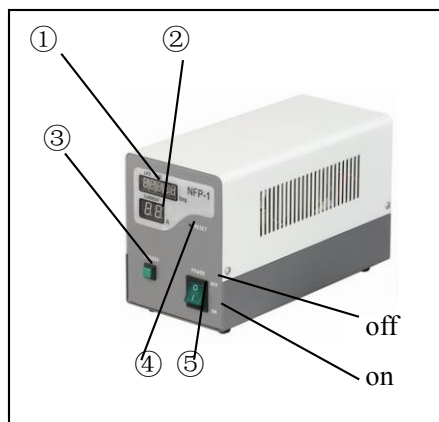

Fig 1
3.1.2 Function of button (fig 1)
- ① Hour counter
- ② Ammeter。
- ③ Excitation button
- ④ Start reset button
- ⑤ Voltage switch